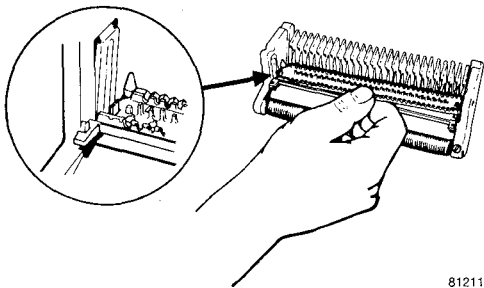

Fig. 21—Install base in adapter.
- 8.02 Place gold base in splice head onto adapter with cut corner to left rear of splice head. See Figure 21.